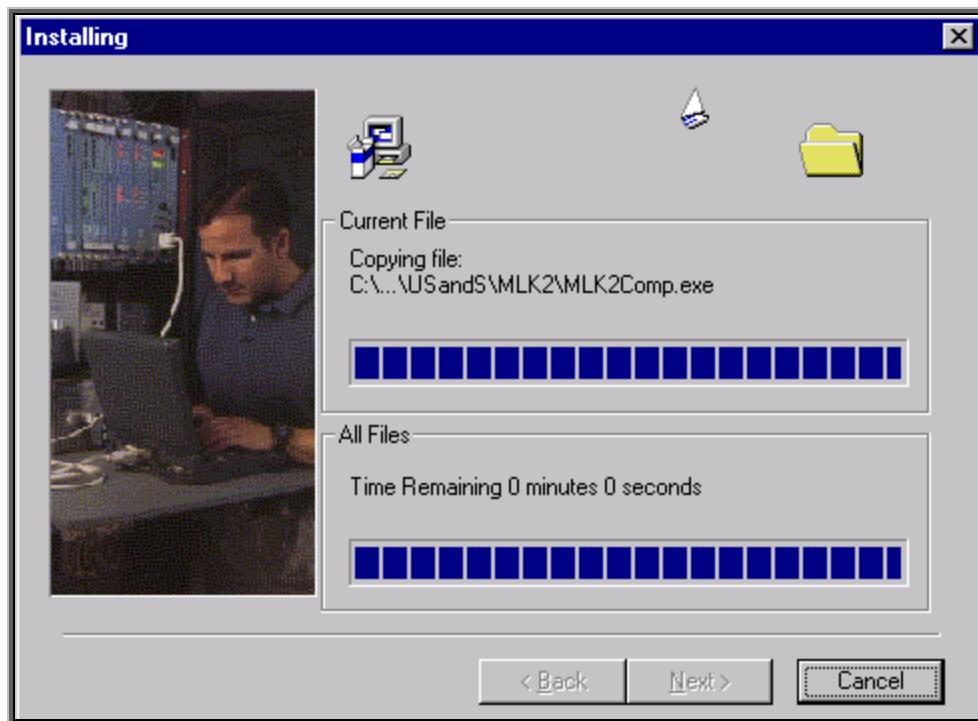

Figure-4.6
- ❖ This will present another window as shown in Figure-4.6.